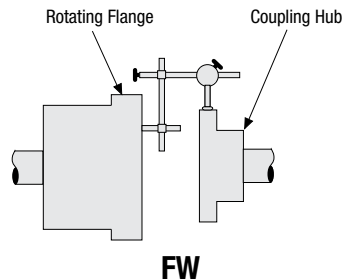
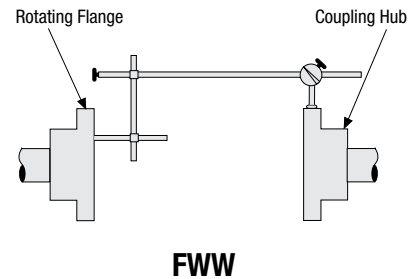

Figure 3. Parallel alignment.
Figure 4. Parallel alignment.
9. Reposition the indicator as shown in figure 3 and/or figure 4 and check for parallel alignment. Adjust the height of connected equipment to attain minimum misalignment. The allowable parallel misalignment is indicated in the table above.